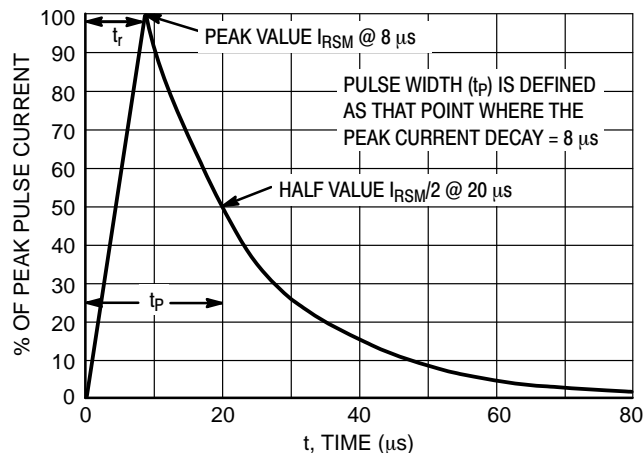

Figure 5. 8 X 20  $\mu$ s Pulse Waveform
1. Non-repetitive current pulse per Figure 5 (Pin 5 to Pin 2)
- Non-repetitive current pulse per Figure 5 (Any I/O Pin to Ground)